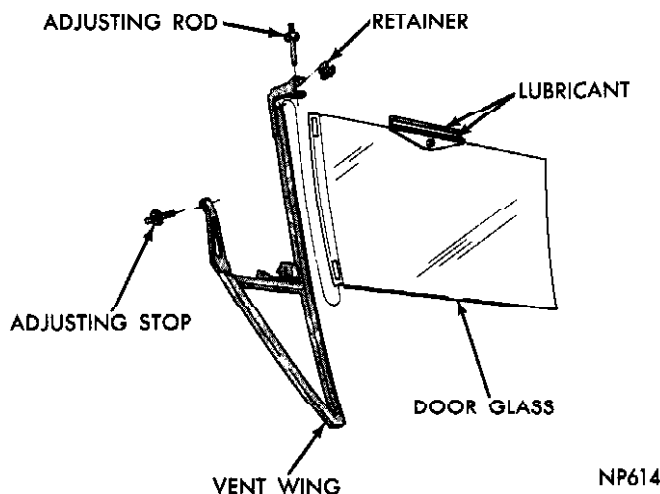
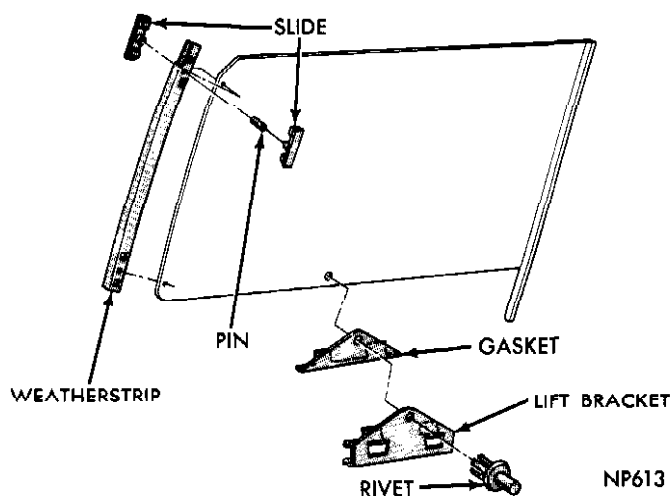
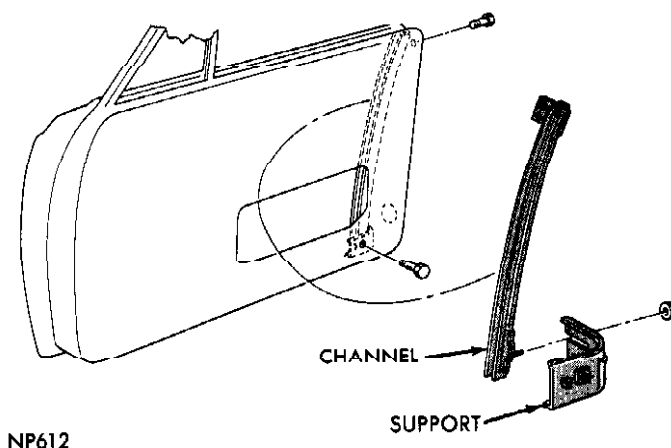

Fig. 29—Vent Wing and Door Glass—Hardtop
Fig. 30—Door Glass Assembly—Hardtop
Fig. 31—Rear Channel Assembly—Hardtop
(7) Invert vent wing and door glass assembly and remove adjusting stud, rod and retainer from vent wing (Fig. 29).
(8) Slide door glass out of vent wing channel.
(9) Remove slide, weatherstrip, pin and lift bracket assembly from door glass (Fig. 30).
(1) Position door glass and rear frame in upright position and install lift bracket and slide assemblies (Fig. 30).
(2) Invert vent wing and install door glass in inverted position.
(3) Install adjusting stud, rod and retainer in vent wing and lubricate sliding surfaces of door glass lift bracket (Fig. 29).
(4) Insert lowest point on division bar through upper lock face corner, twist to insert between panels and slide forward.
(5) Tilt lock face side of assembly upward so vent wing hinge adjusting stud will enter hole in inner reinforcement and rear edge of glass fits squarely in rear channel run (Fig. 31) and install nut and washer.
(6) Insert adjusting rod in hole of bracket and install nut and washer.
(7) Install drive screw in vent wing at rear belt.
(8) Install up-stop and adjust door glass.